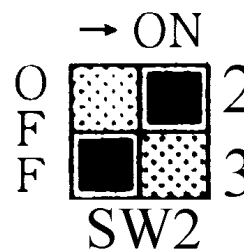

fig. 3
- 9) Set the Infinity to 'Forced Low' combustion by setting No. 2 dipswitch of the bottom (SW2) set of dip switches to 'ON'. (fig 3)